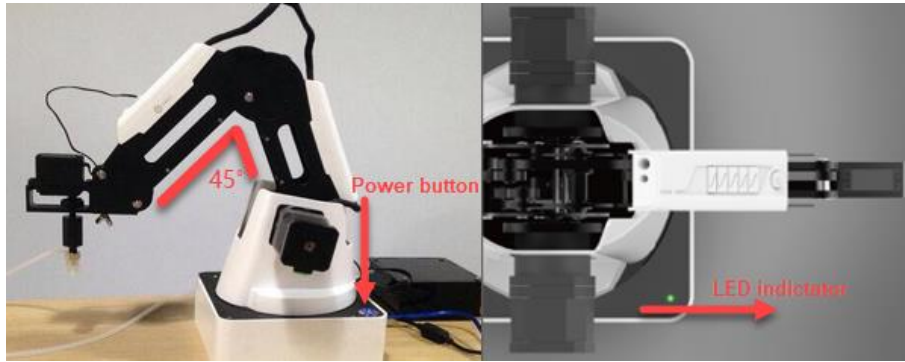

Figure 3.2 Gesture of Dobot Magician before power-on
- Power on:** align the Dobot Magician into its neutral position with its Forearm and Rear Arm constructing a 45-degree angle, and press down the power button in the base, as shown in Figure 3.2. Once the robotic arm is powered on, the LED indicator turns yellow, and all the stepper motors lock. And then wait about seven seconds, a short beep sound will be heard, and the LED indicator turns from yellow to green. Now the Dobot Magician is powered on.